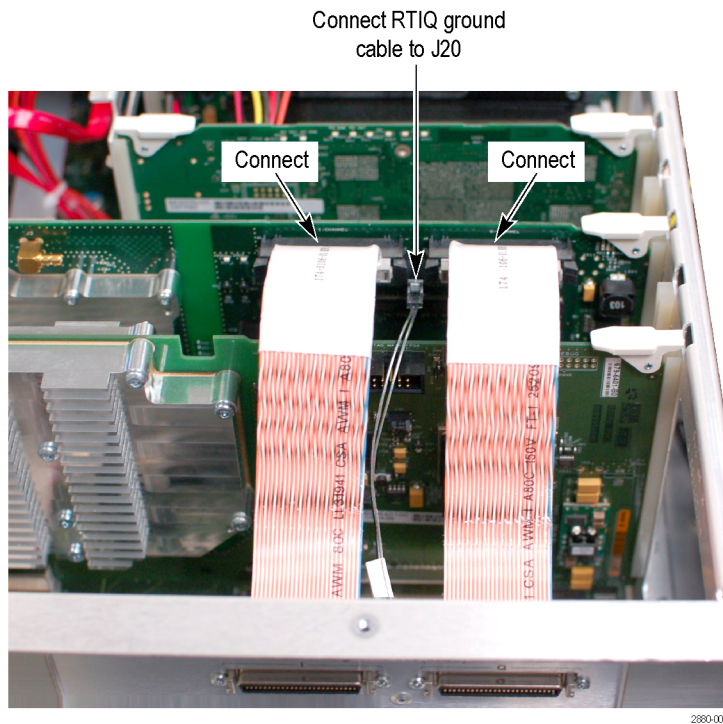

Figure 5: Connecting the output cables
1. Use the board ejectors to lift the RTIQ board up out of its slot. Connect the 2-wire RTIQ ground cable from the rear-panel spade connector to J20 on the RTIQ board. Gently pull on the cable to ensure the locking tabs are engaged. (See Figure 5.)
3. Connect the IQ output cables as shown. (See Figure 5.)